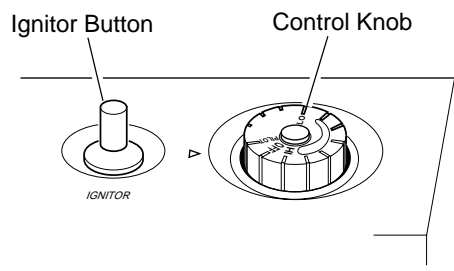

Figure 24 - Control Knob In The OFF Position
4. Wait five (5) minutes to clear out any gas. Then smell for gas, including near the floor. If you smell gas, **STOP!** Follow "B" in the safety information, column 1. If you don't smell gas, go to the next step.
5. Turn control knob counterclockwise  to the PILOT position. Press in control knob for five (5) seconds (see Figure 24).